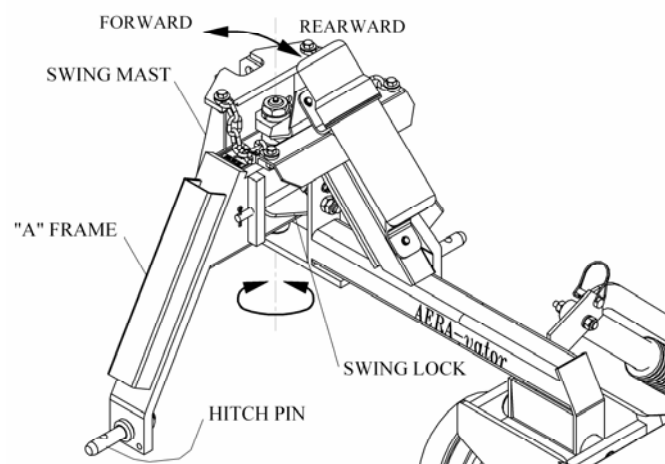

Figure 2: Swing Hitch Operation
3. Adjust the tractor top link in or out to place the swing mast against the "A" frame. When the horizontal bar is level with the ground or slightly aft, the hitch is set properly, and insures the unit will center when lifted. Refer to Figures 2, 3, and 5.